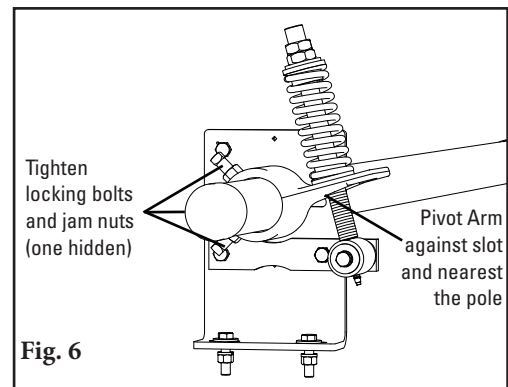

Fig. 6
13. Tension the blades to the belt. Rotate the blades until they contact the belt. While holding the spring bushing flat on the torque arm, rotate the torque arm until the pivot arm is against the end of the slot nearest the pole. Tighten the locking bolts and jam nuts on the torque arm (Fig. 6). **NOTE:** The torque arm should be up against the mounting plate.